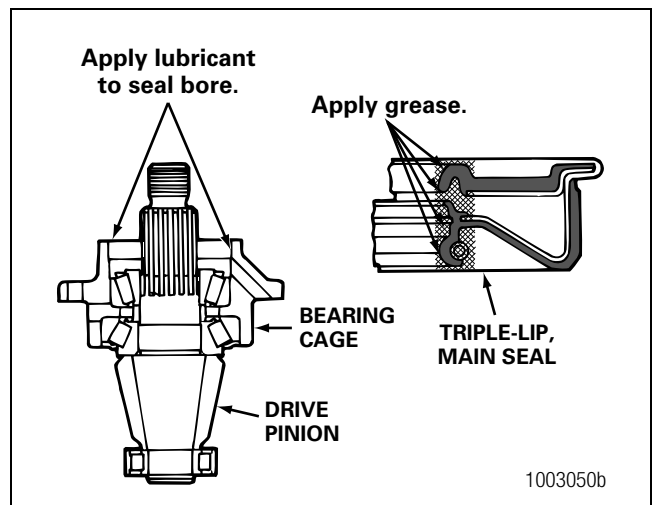

Figure 5.27
- A. Apply the same lubricant used in the axle housing to the outer surface of the seal and the seal bore in the bearing cage. Figure 5.27.